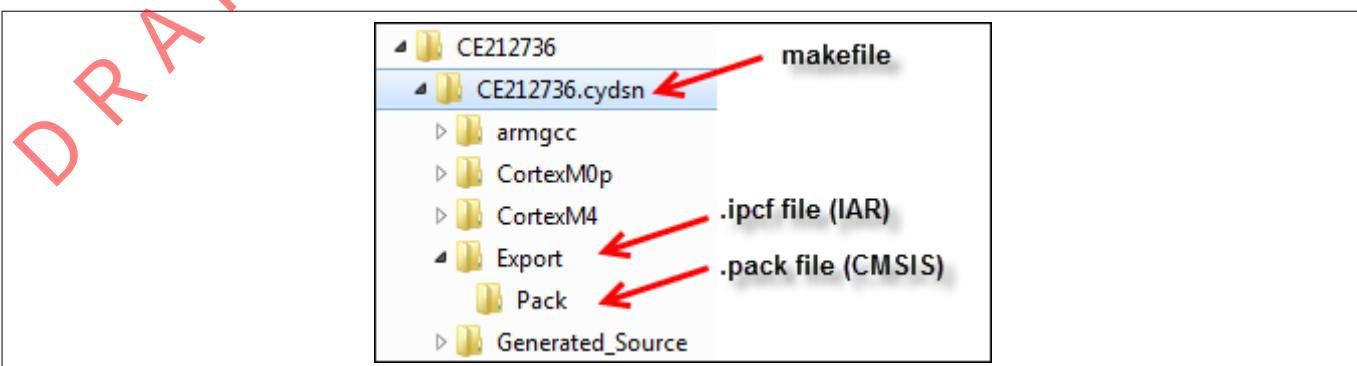

Figure 523 Where to find export packages
- Import generated code into each project file. Figure 523 shows where each package is located